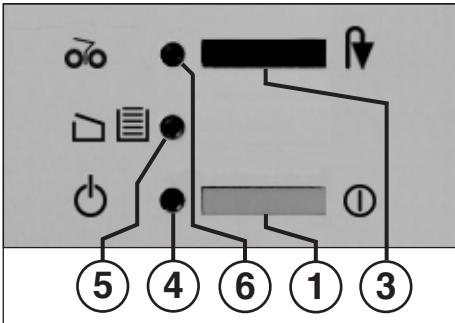

fig. 1
3 = Pushbutton switch (fig. 1)
4 = Pilot lamp (fig. 1)
5 = Pilot lamp (fig. 1)
6 = Pilot lamp (fig. 1)
- Turn machine on with pushbutton switch (1) (fig. 1). Pilot lamp lights up (4) (fig. 1).
Once the collecting bag is full, the machine switches off. The pilot lamp „Container full“ / „Door open“ (5) (fig. 1) **flashes**. To show that the cutting mechanism has stopped, the pilot lamp „Paper jam“ / „Stop“ (6) lights up.
- Move back the sliding frame with the collecting bag and close door. The pilot lamp (5) (fig. 1) goes off.
- Briefly press the pushbutton switch „Backward operation“ / „Stop“ (3). The cutting mechanism shreds what remains in the feed shaft and then switches off. The pilot lamp (6) goes out. You can now continue shredding.
- The pilot lamp (6) (fig. 1) lights up.
- **Continuously** press pushbutton switch „Backward operation“ / „Stop“ (3) while simultaneously removing from the machine any documents that were being fed in.
- After removal, the cutting mechanism automatically runs forwards, shreds any remnants remaining in the inlet slot and then switches off. The pilot lamp (6) (fig. 1) goes out.
- Note:** If removal is not possible, then briefly press the pushbutton switch „Backward operation“ / „Stop“ (3) again. The cutting mechanism now automatically repeats the process as described above until the paper remaining in the cutting mechanism has run through.